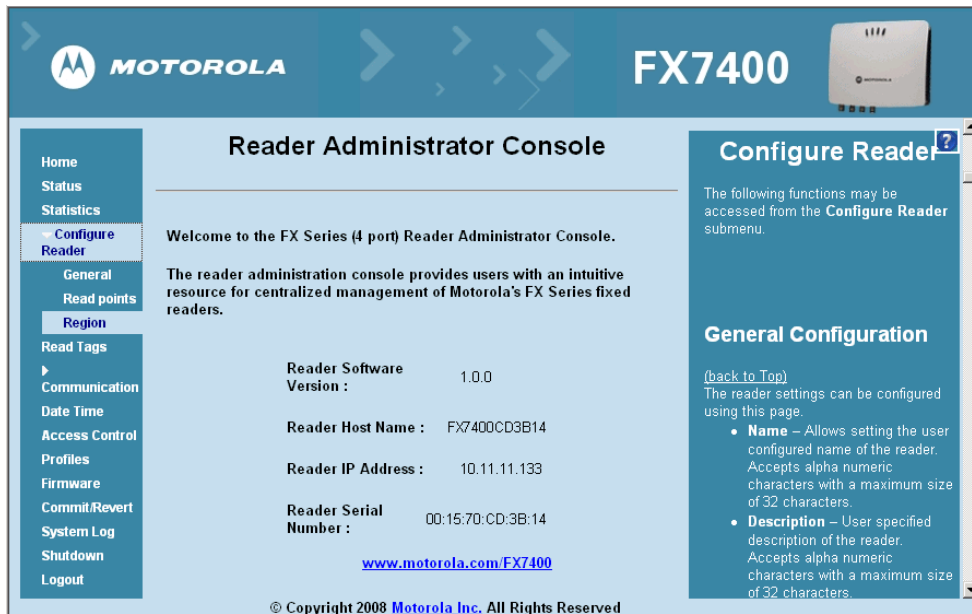

Figure 1-4 Reader Administrator Console Main Menu
7. From the **Reader Administrator Console** (see Figure 1-4 on page 1-4) select **Commit/Revert**.